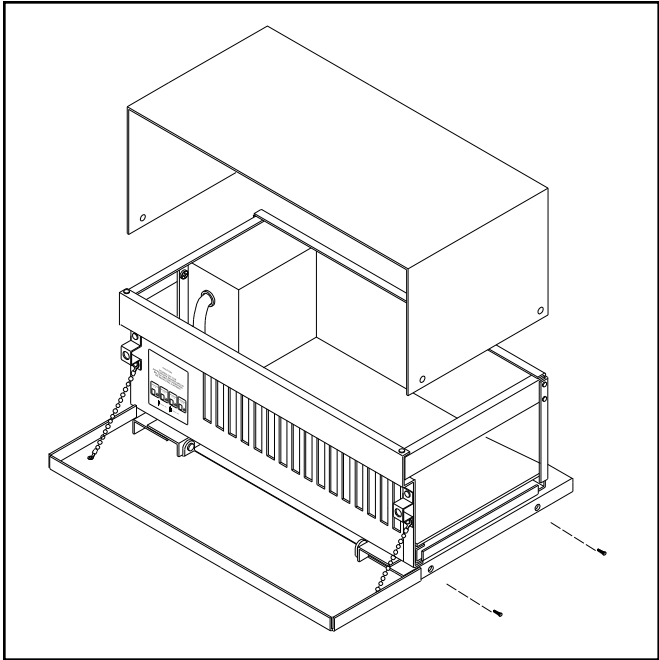

Figure 6-3. Remove modem pool cover
- Remove cover as shown in Figure 6-3.